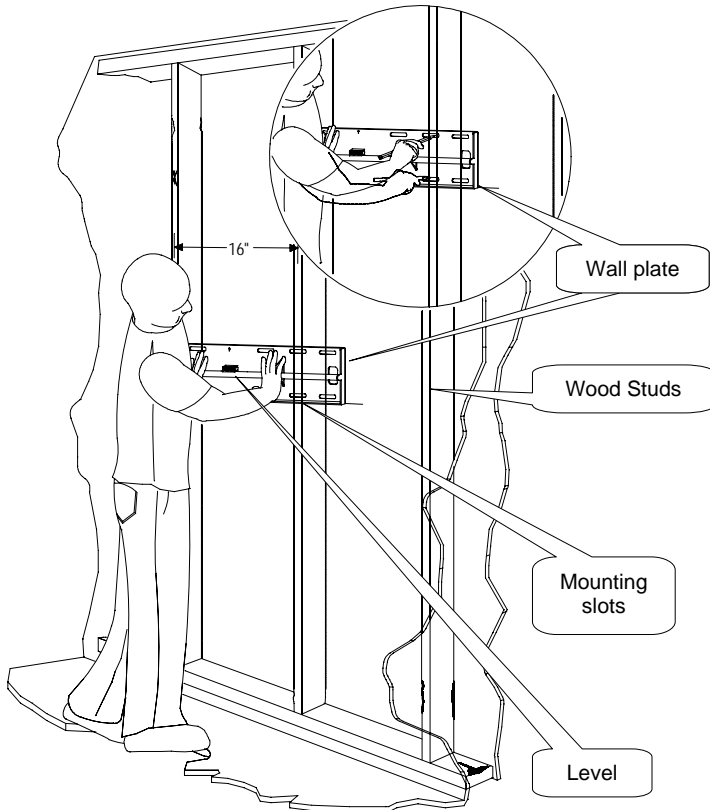

Figure 10
Place the bottom portion of the wall plate to the reference line and mark the four (4) lag bolt mounting points through the wall plate slots on the wall. Level the wall plate with the reference arrow pointing up to the ceiling (Figure 10).